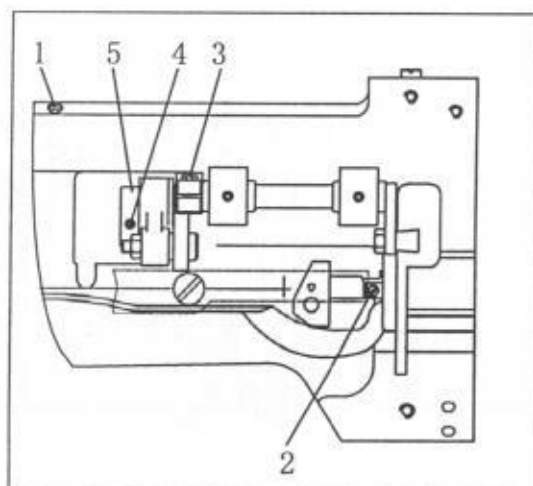

Fig. 10
(B) The inner clamp and the sewing needle should remain synchronous. As the sewing needle descends, so does the inner clamp. However, the inner clamp can be made slower if the sewn material is thick. When adjusting: loosen the set screw (4) on the lifting eccentric wheel of clamp (5) (Fig. 10). Turn the hand wheel towards the red arrow. Tighten the screw when the inner clamp and the sewing needle become synchronous.
(B) The lifting capacity of the outer clamp can also be adjusted. The height of the outer clamp needs adjusting owing to different kinds of material. Loosen the adjusting screw (1) (Fig. 10) and the guide screw (2) (Fig. 10). Move the outer clamp up and down to a proper height.
(C) Movement changes if the inner and outer clamps are not equal in position. In this case, the inner clamp needs adjusting. Put down the clamp and grasp the inner clamp. Loosen screw (3) (Fig. 10) and move it up and down to a proper height.
(5) Pressure adjustment of the clamp
The clamp pressure is adjusted with the adjusting screw (1) (Fig. 10). Rotate the screw clockwise to increase pressure while counterclockwise to reduce pressure.